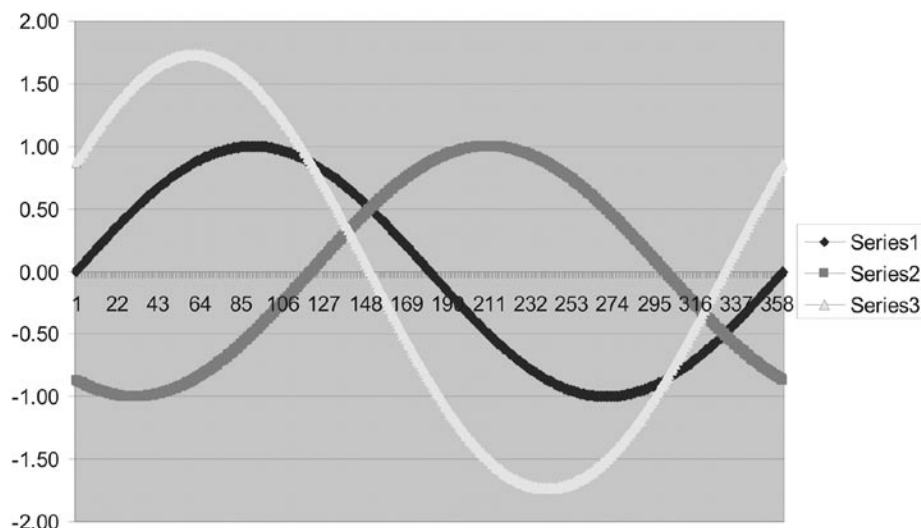

FIGURE 10.12
- q. Click on Insert in the toolbar, then Chart. Excel should open a new window. Now click on Chart type: Line, then Finish. Excel should open a new window with a chart that looks like the illustration in Figure 10.12. The blue line is phase A, the magenta line is phase B, and the yellow line is the phase-to-phase voltage. Note that the phase-to-phase voltage starts at 330° .